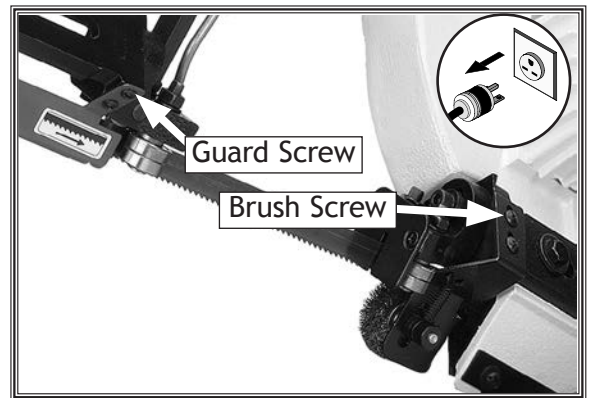

Figure 39. Blade accessories.
3. Open the blade guard door, and use a screwdriver to remove the blade guide blade guard and the wire wheel brush (see Figure 39).